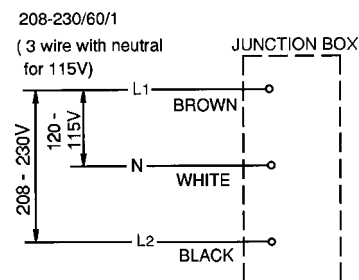

Fig. 7
- On single phase models only, the white lead must be connected to the neutral conductor of the power source. Miswiring results in severe damage to the icemaker. See Fig. 7.